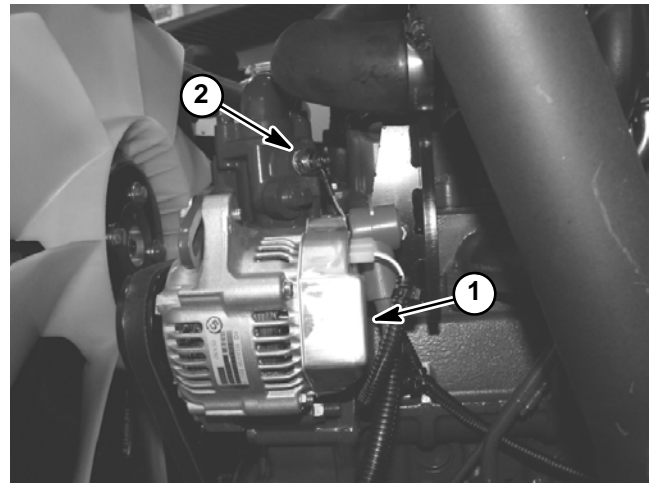

Figure 11
- A. The temperature sender and alternator (Fig 11).